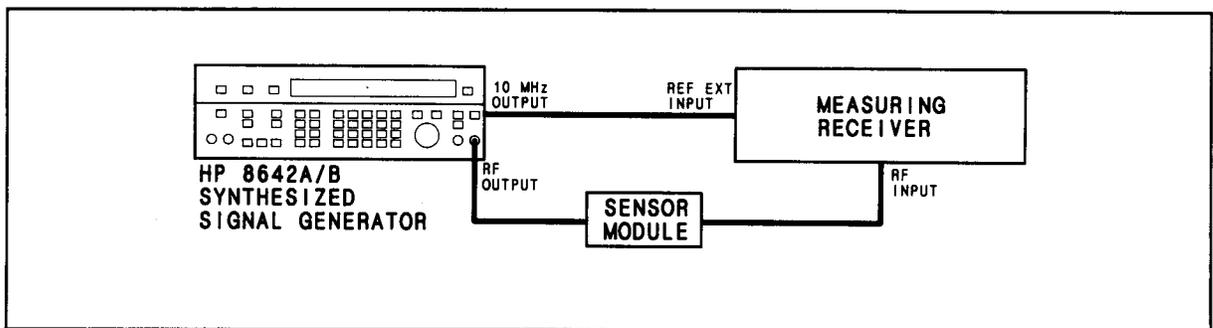

Figure 4-1. Level Accuracy and Flatness Test Setup
1. Connect the instruments as shown in Figure 4-1.